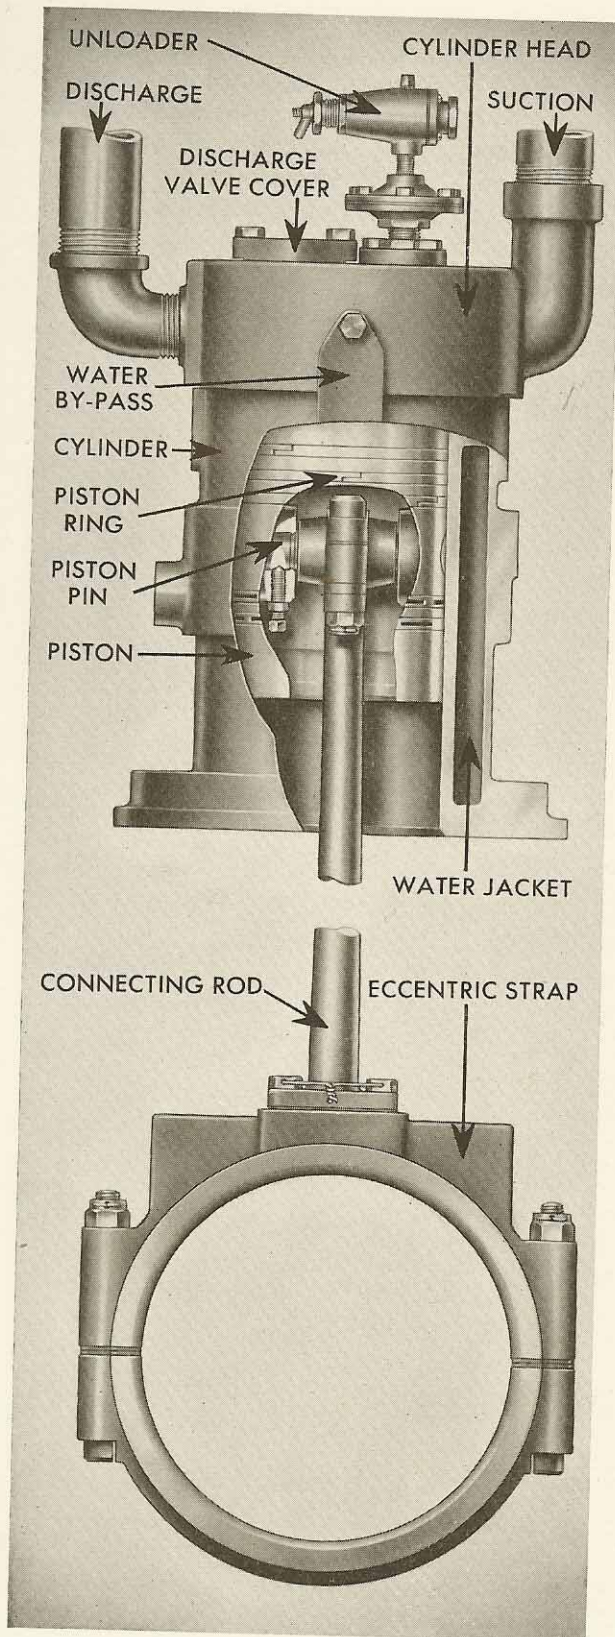

FIGURE 5-10
27. AIR COMPRESSOR: At the after end of the engine there is an air compressor driven by an eccentric, eccentric strap and connecting rod. The air compressor is single-acting; downstrokes draw air in by suction from the atmosphere, and upstrokes discharge air to the air tanks. Spring-loaded inlet and discharge valves are used. Figure 5-10 shows the construction of the compressor.